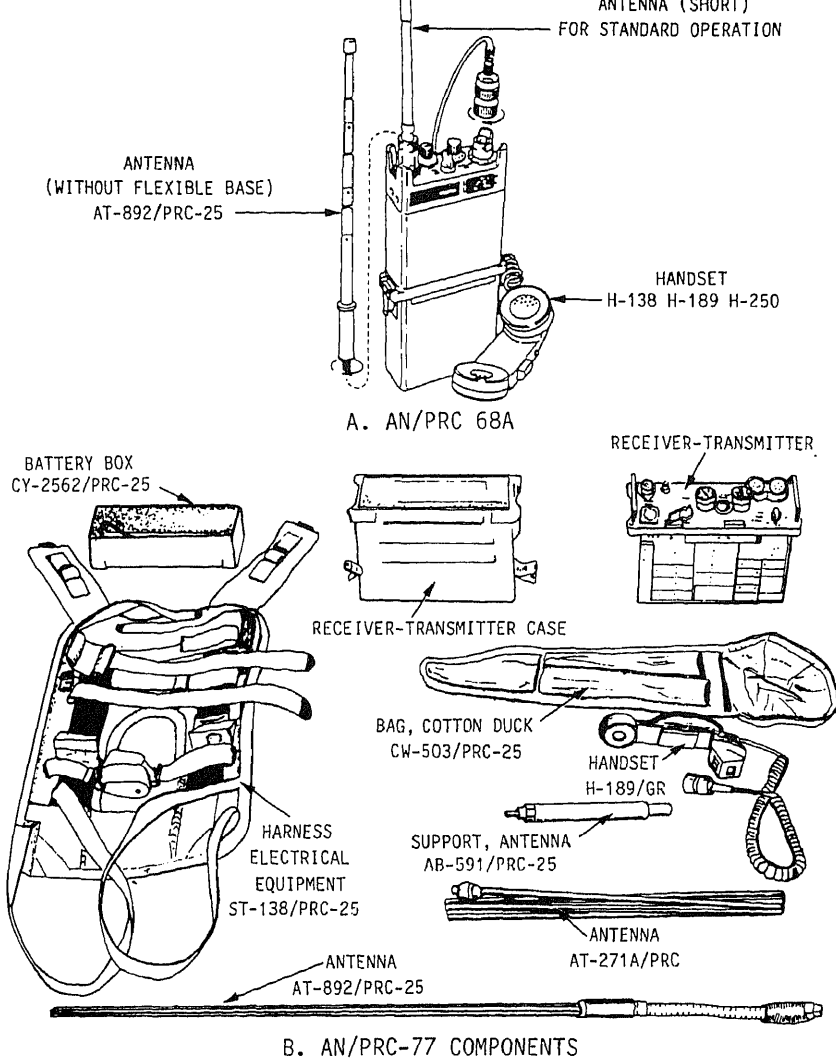

Figure 8-1.—Radio Sets.
The AN/PRC-68A radio set (fig. 8-1, view A) is a short-range, portable, frequency-modulated (FM) receiver-transmitter used to provide two-way voice communication. It can handle ten preset channels, with up to 2,000 channels available. It weighs (including battery and antenna) 3.12 pounds and measures only 9.35 inches by 3.12 inches by 1.52 inches.
3. Attach Handset H-189/GR (fig. 8-1, view B) to either audio connector (AUDIO).
11. Press Handset H-189/GR (fig. 8-1, view B) PUSH-TO-TALK switch (on the right side of the handset) and speak into the handset. Release the PUSH-TO-TALK switch to LISTEN.
12. Adjust the VOLUME control (10) for desirable sound level.
13. To reduce the rushing noise when no signal is being received, turn switch (10) to SQUELCH.